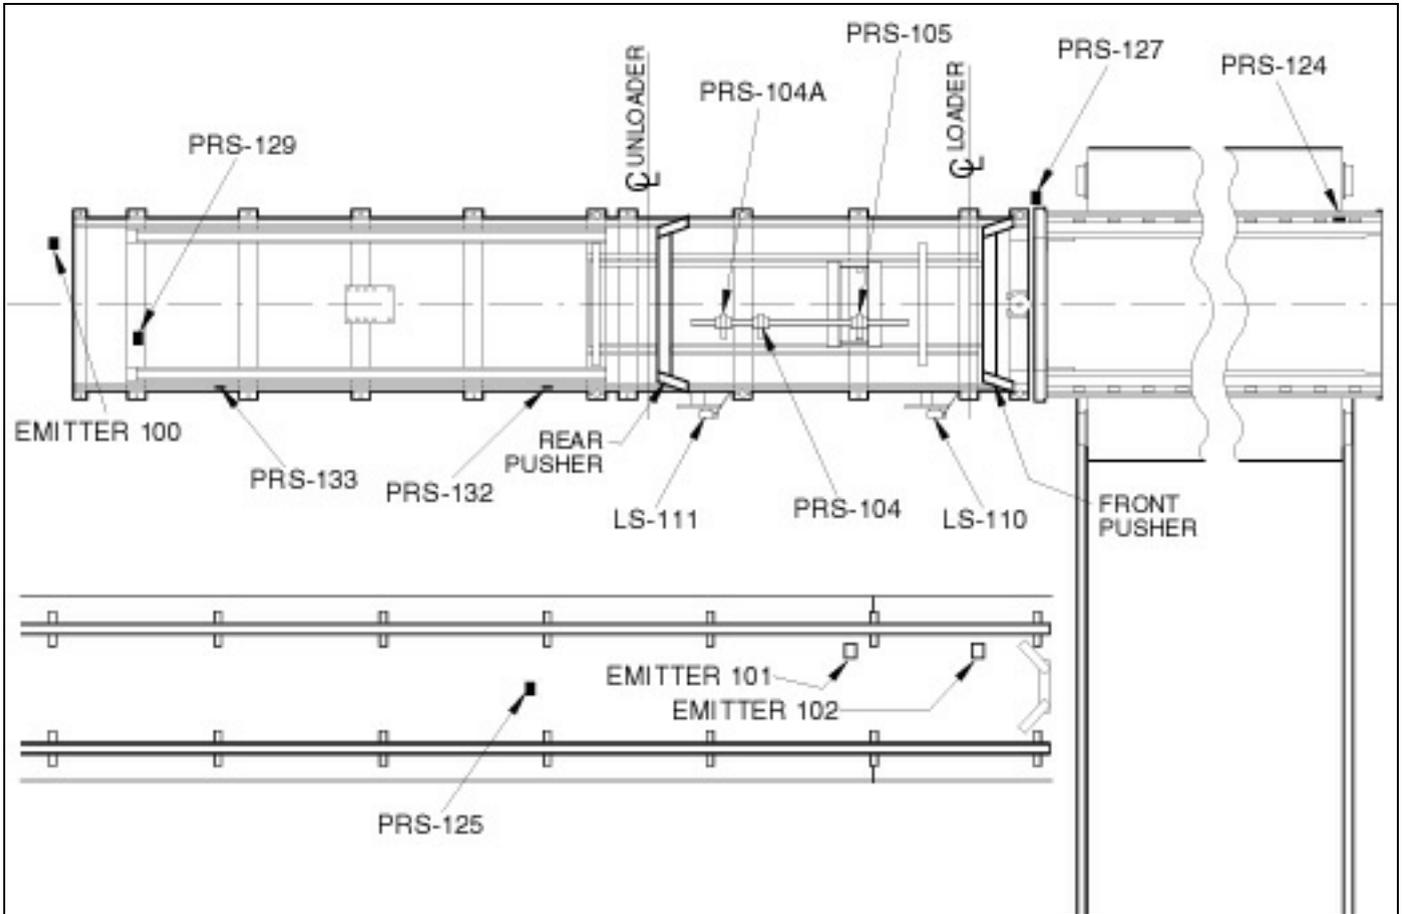

Figure 2.31 RACKVEYOR AND SIDE SHIFTER SWITCHES (LOADER SIDE SHIFTER).
- 2.3.4 PRS-105 (figure 2.31 and 2.32) switch indicates the "forward" position where racks are centered with loader center line and unloader center line. Adjust PRS-105 to tie-plate actuator.
- 2.3.5 PRS-104 (figure 2.31) switch indicates the "reverse" position to index to next bay. PRS-104 should be adjusted so that carriage hooks the next leg of the rack. Adjust PRS-104 to tie-plate actuator.
- 2.3.6 PRS-104A (figure 2.31) switch indicates carriage is reversing to pick up a new rack when bay is full (only on loader-side shifter). It should be adjusted to go past the first up rack to pick-up a fresh rack (full rack). Adjust PRS-104A to tie-plate actuator.
- 2.3.8 LS-110 limit switch (figures 2.31 and 2.32) indicates rack in position for loader. Should be adjusted to actuate off rack legs.
- 2.3.9 LS-111 limit switch (figure 2.31) indicates rack in position for unloader. Should be adjusted to actuate off rack legs.
- 2.3.10 When PRS-132 and PRS-133 (figure 2.31) are both covered by a rack, the indexer strokes to PRS-104A to get new rack. Adjust switches to within 1/4" [6.3mm] from bottom of rack.
- 2.3.13 PRS-129 (figure 2.31), when covered then uncovered, indicates that crawler is clear and rack index can take place. This switch should be adjusted to actuate off bottom of crawler (1/4" [6.3mm] below bottom).
- 2.3.16 LS-123 (figure 2.31) is located on the rail locks. It should be adjusted to actuate off cylinder to indicate locks are unlocked.
2.3.17 PRS-121 (figure 2.31) will indicate the left lock on the Side Shifter is locked up.
2.3.18 PRS-122 (figure 2.31) will indicate the right lock on the Side Shifter is locked up.
2.3.19 PRS-124 (figure 2.31) indicates that a rack is on the Side Shifter. It should actuate off bottom of rack (1/4" [6.3mm] below).
2.3.20 PRS-125 (figure 2.31) when covered then uncovered indicates that Crawler is clear of the Side Shifter.
2.4.4 PRS-105 (figure 2.31 and 2.32) switch indicates the "forward" position where racks are centered with loader center line and unloader center line. Adjust PRS-105 to tie-plate actuator.
2.3.5 PRS-104 (figure 2.31) switch indicates the "reverse" position to index to next bay. PRS-104 should be adjusted so that carriage hooks the next leg of the rack. Adjust PRS-104 to tie-plate actuator.
2.4.7 LS-110 limit switch (figures 2.31 and 2.32) indicates rack in position for loader. Should be adjusted to actuate off rack legs.
2.4.8 LS-111 limit switch (figure 2.31) indicates rack in
2.4.9 When PRS-132 and PRS-133 (figure 2.31) are both covered by a rack, the indexer strokes to PRS-104A to get new rack. Adjust switches to within 1/4" [6.3mm] from bottom of rack.
2.4.10 PRS-129 (figure 2.31), when covered then uncovered, indicates that crawler is clear and rack index can take place. This switch should be adjusted to actuate off bottom of crawler (1/4" [6.3mm] below bottom).
2.4.13 LS-123 (figure 2.31) is located on the rail locks. It should be adjusted to actuate off cylinder to indicate locks are unlocked.
2.4.14 PRS-121 (figure 2.31) will indicate the left lock on the Side Shifter is locked up.
2.4.15 PRS-122 (figure 2.31) will indicate the right lock on the Side Shifter is locked up.
2.4.16 PRS-124 (figure 2.31) indicates that a rack is on the Side Shifter. It should actuate off bottom of rack (1/4" [6.3mm] below).
2.4.17 PRS-125 (figure 2.31) when covered then uncovered indicates that Crawler is clear of the Side Shifter.